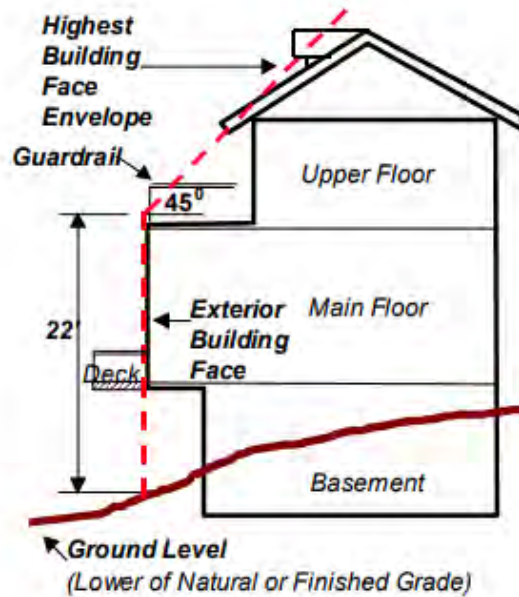

Figure 5 – Diagram from Zoning Bylaw how to measure highest building face envelope
1. Highest Building Face Envelope: The highest building face envelope in the RS10 zone is 6.7 m (22 ft.) measured from the average grade¹. The highest building face envelope is generally measured as shown in Figure 5. One-third of a single-family dwelling may encroach into the highest building face envelope and the highest building face envelope is not to include any interior space. As noted in the proposed Development Variance Permit 19-042 (Appendix A), the proposed variance allows for 67% of the length of the building to not comply with this requirement.